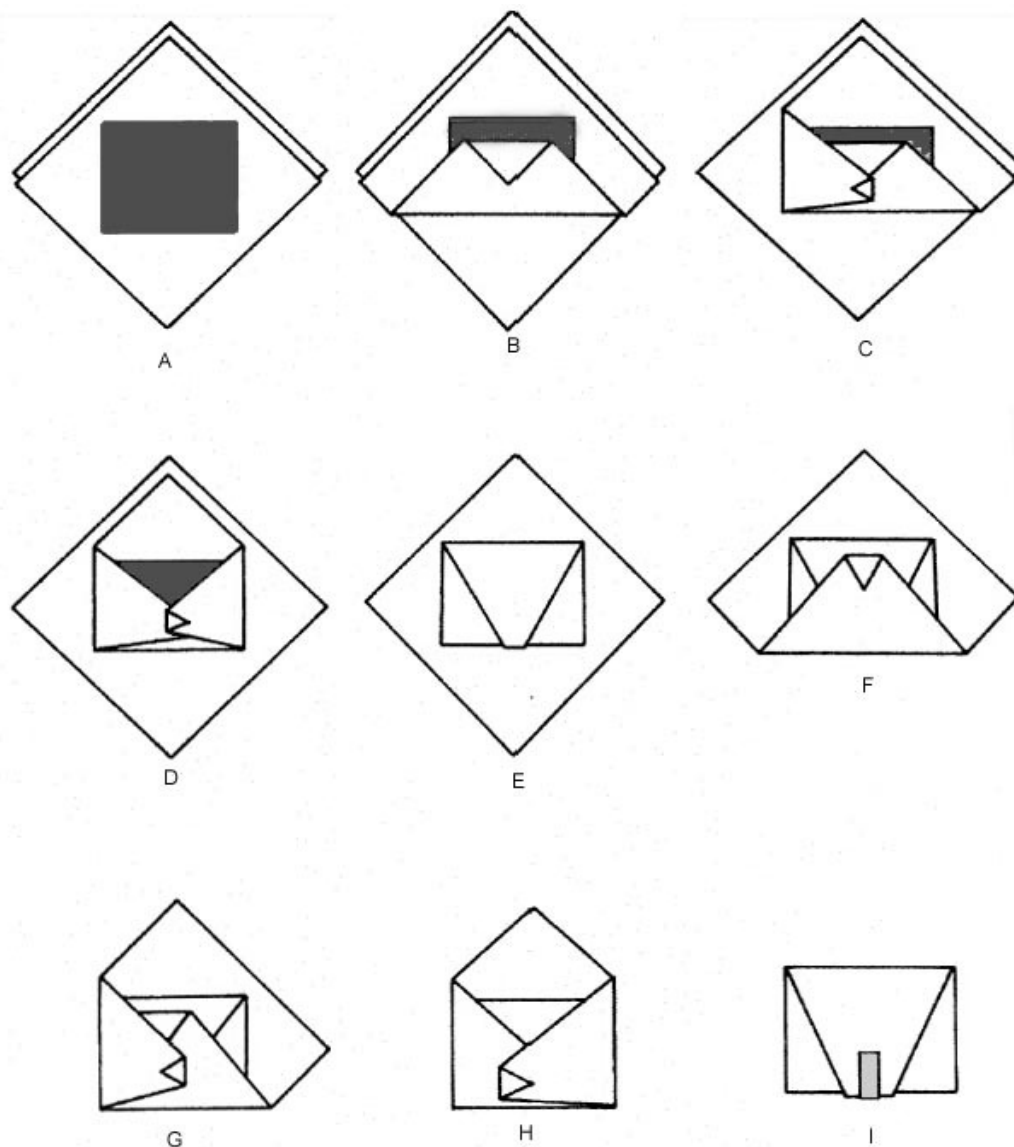

Figure 8-2: Double-wrapping: Envelope fold
- Wrap utensils sequentially in two wrappers (refer to Figure 8-2).